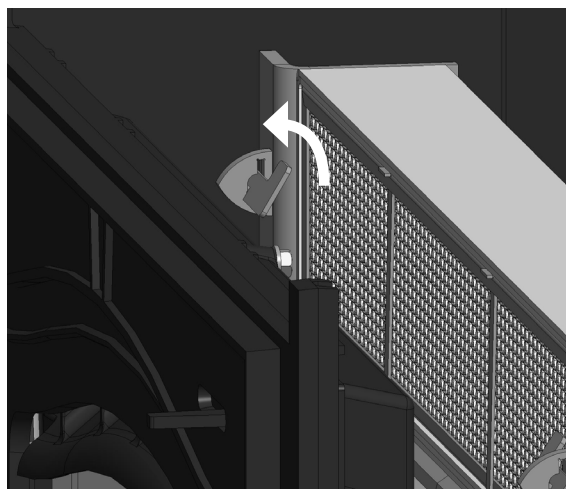
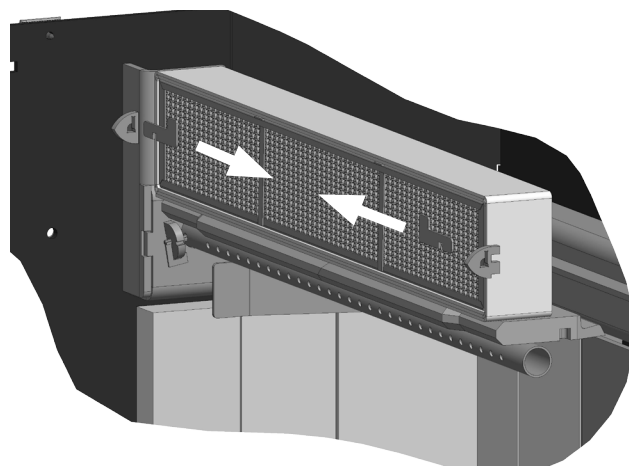

Figure 5.10. Rotate the combustor retainer clips forward.
Figure 5.11. Remove the combustor retainer clips.
4. Remove combustor retaining clips from front left and right sides of the catalyst. Rotate each member 90° and slide towards the center of the firebox. Place both clips in a safe location. Fig 5.10 & Fig 5.11.